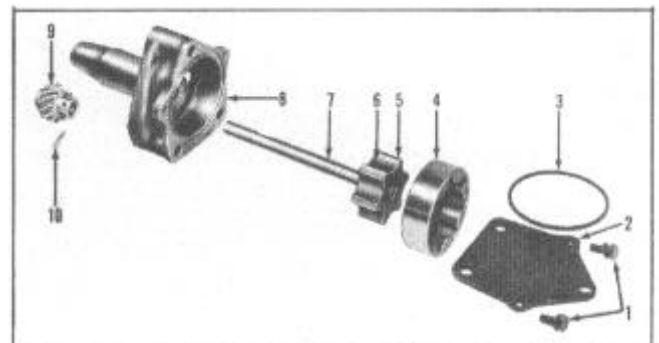

FIGURE 8
1. Remove cover screws (1), Figure 8, cover (2), and gasket (3).
2. Hold hand over cover opening and with pump upside down, turn drive shaft until outer rotor (4) slips out.
3. Drive out straight pin (10) which holds pump drive gear (9) to shaft.
4. Press shaft (7) out of gear (9) by supporting oil pump body (8) on cover face in a suitable arbor press allowing inner rotor and shaft to clear when pressing shaft out of gear.
1. Install outer rotor (4) in pump body, Figure 8.
2. Slide shaft (7) and rotor (5) assembly into pump body.
3. Support oil pump body and shaft, and rotors assembly on a suitable clean surface and press oil pump drive gear (9) on shaft (7). End play between hub of gear and pump body should be .004" to .008".
5. Make sure pump is thoroughly clean, then install cover gasket (3) in recess of pump body.
6. Install cover (2). Tighten screws evenly and securely.